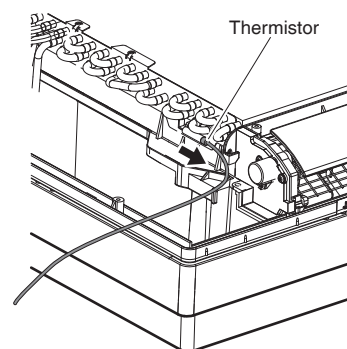

Fig. 5
- 6) Remove the thermistor. (See Fig. 5)